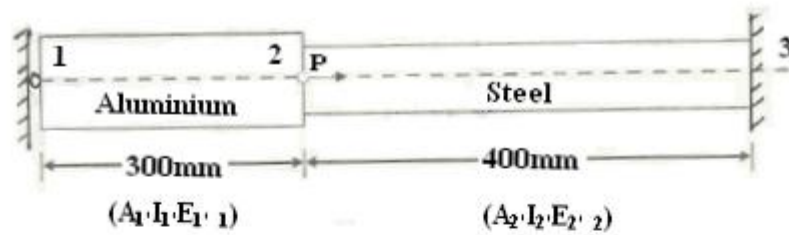

Fig.1
- B Determine the nodal displacements at node 2, stresses in each material and support reactions in the bar shown in Fig. 1. due to applied force $P = 400 \times 10^3$ N and temperature rise of 30°C . given: $A_1 = 2400 \text{ mm}^2$ $A_2 = 1200 \text{ mm}^2$ $E_1 = 0.7 \times 10^5 \text{ N/mm}^2$ $E_2 = 2 \times 10^5 \text{ N/mm}^2$ and $\alpha_1 = 22 \times 10^{-6}/^\circ\text{C}$, $\alpha_2 = 12 \times 10^{-6}/^\circ\text{C}$ $E = 200 \times 10^5 \text{ N/cm}^2$ 10